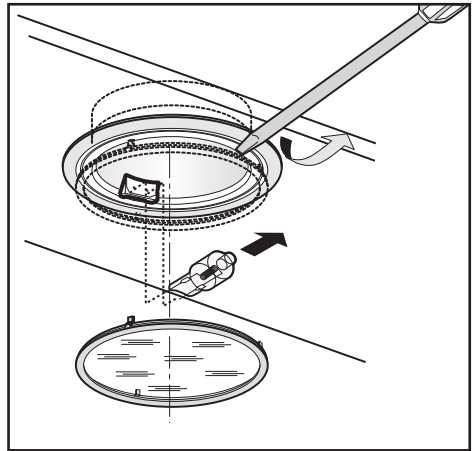

Fig.6
• **Replacing halogen light bulbs (Fig. 6).**